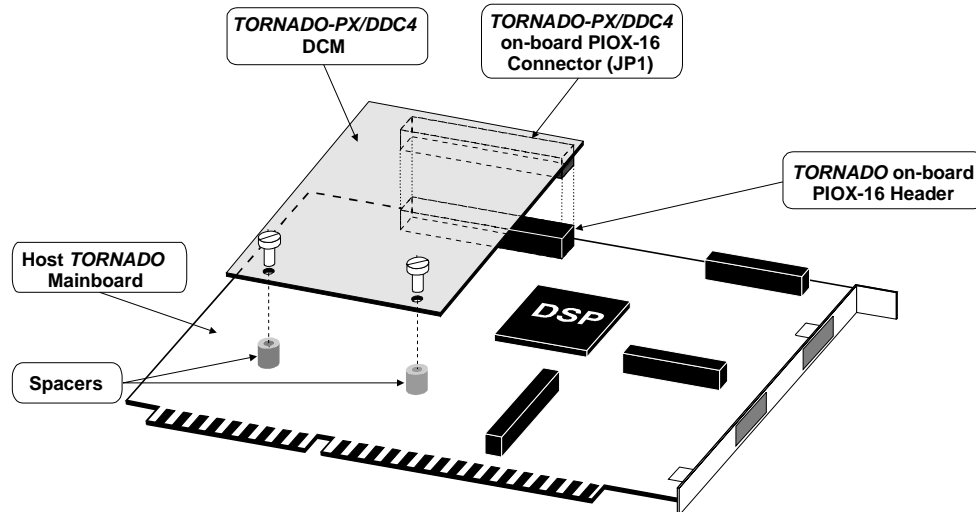
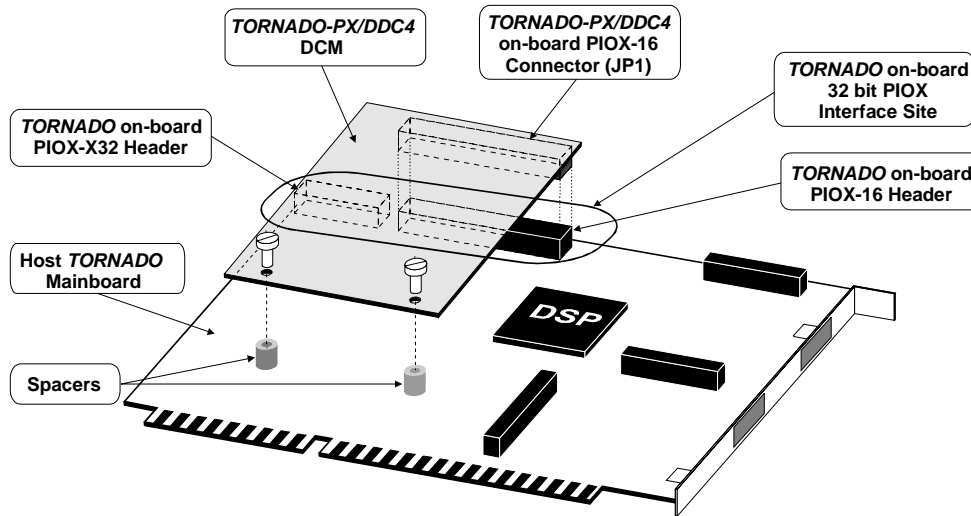

Fig. 3-1a. Installation of *TORNADO-PX/DDC4* DCM into 16-bit PIOX-16 site of host *TORNADO* DSP system.
Fig. 3-1b. Installation of *TORNADO-PX/DDC4* DCM into 32-bit PIOX site of host *TORNADO* DSP system.
4. Pick-up *TORNADO-PX/DDC4* DCM from the shipment packaging and orient it parallel to *TORNADO* mainboard over PIOX-16 DCM area. Safely plug-in on-board JP1 host PIOX-16 connector of *TORNADO-PX/DDC4* DCM into the corresponding 16-bit PIOX-16 site header of host *TORNADO* mainboard (fig.3-1a). In case host *TORNADO* mainboard provides on-board 32-bit PIOX interface site, then you have to plug *TORNADO-PX/DDC4* DCM into the 16-bit PIOX-16 sub-connector of host PIOX interface site at host *TORNADO* mainboard (fig.3-1b).